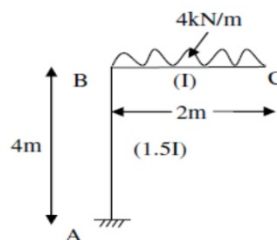

Figure: 5
6. Determine the horizontal and vertical component of deflection at the Point 'C' of the frame shown in figure 5. Take $E=200 \times 10^3 \text{ N/mm}^2$ and $I=6 \times 10^7 \text{ mm}^4$. Use Strain Energy method. [15]